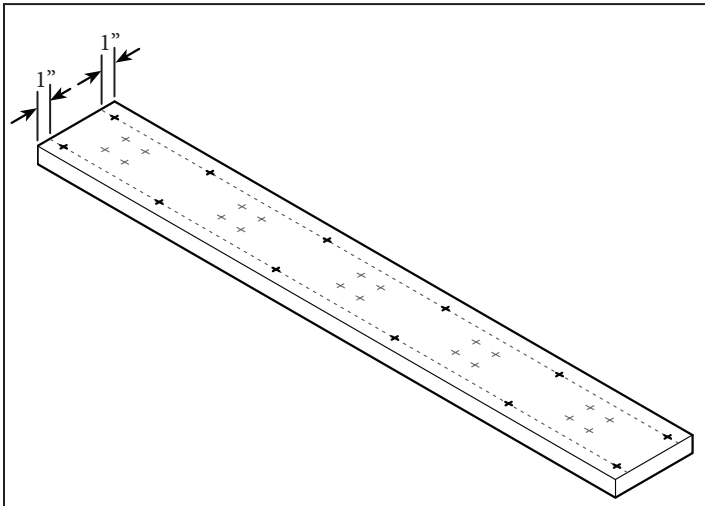

Figure 6
7. Mark the center of the stud onto the header. Mark 1" from the top edge and 1" above the bottom edge (Figure 6).